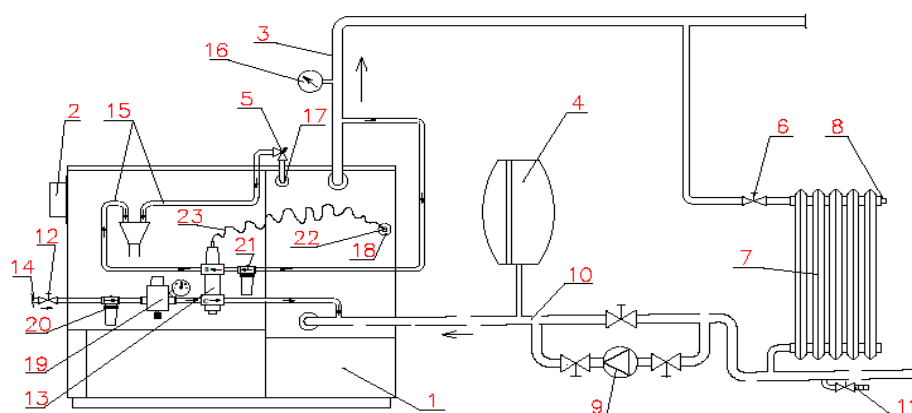
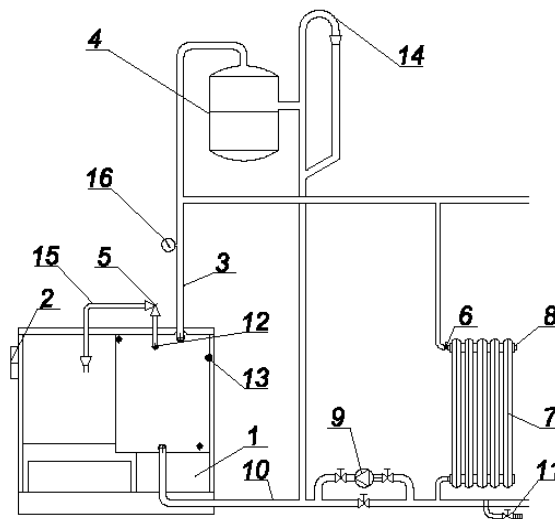

Figure 7
Figure 8
The stove can be installed in closed or open heating circuit. Conform to the standards: JUS M.E7.201 and JUS M.E7.202. Closed and open circuit diagrams are shown on Fig. 7 and Fig. 8.
6.1 FLOW PIPE AND RETURN PIPE (Fig. 4, Items 1 and 2 and Fig. 7 and 8, Items 3 and 10)
1. Thermal valve with built-in thermal protection type 544, 1/2", product Caleffi (Fig. 7a) and Fig. 7, Item 13.
2. Slope pressure regulator with manometer 1/2", the same or similar as shown in Fig. 7b and Fig. 7, Item 19.
3. Filter for cold water at the input of the water supply to the thermal valve, Fig. 7, Item 20
4. Filter for hot - boiling water intake of the boiler and water outlet of thermal valve, Fig. 7, Item 21.
Installation of thermal valve with built-in thermal protection (Fig. 7, Item 13 and Fig. 7a) with additional elements ensuring safe operation, such as pressure regulator (Fig. 7, Item 19 and Fig. 7b). Water filter on the boiler intake (Fig. 7, item 20) and water filter on the boiler outlet in closed central heating system is **MANDATORY**. This specially refers to a closed system, when the radiators are submerged and where in case of termination of the pump operation for any reason, the water temperature in the boiler rapidly increases and overheating occurs very quickly.
6.2.1 THERMAL VALVE WITH BUILT-IN THERMAL PROTECTION (Fig. 7, Item 13 and Fig. 7a)
The thermal fuse probe (Fig. 7, Item 22) is best to place in the thermal valve connection (Fig. 7, Item 18). It can be placed on the discharge - distribution pipe (Fig. 7, Item 3) but at a distance from the boiler of 500 mm the most or at the highest point of the boiler before the exhaust pipes.
Fig. 7 shows the thermal valve installation diagram.
6.2.2 SLOPE PRESSURE REGULATOR 1/2" WITH MANOMETER (Fig. 7, Item 19 and Fig. 7b)
When installing the thermal valve it is required to mount the slope pressure regulator as shown in Fig. 7, Item 19. The pressure that is maintained by pressure regulator must be set at a higher pressure than the pressure that is in the heating system. If you do not have a higher water pressure of at least 0.8 bar compared to the pressure in the heating system thermal valve will not work or cannot inject cold water into the boiler that needs to be cooled.
6.2.3 WATER FILTER OF THE BOILER INTAKE (Fig. 7, Item 20)
6.2.4 WATER FILTER OF THE BOILER OUTLET (Fig. 7, Item 21)
6.3 SAFETY VALVE (Fig. 7 and 8, Item 5 and Fig. 4, Item 6)